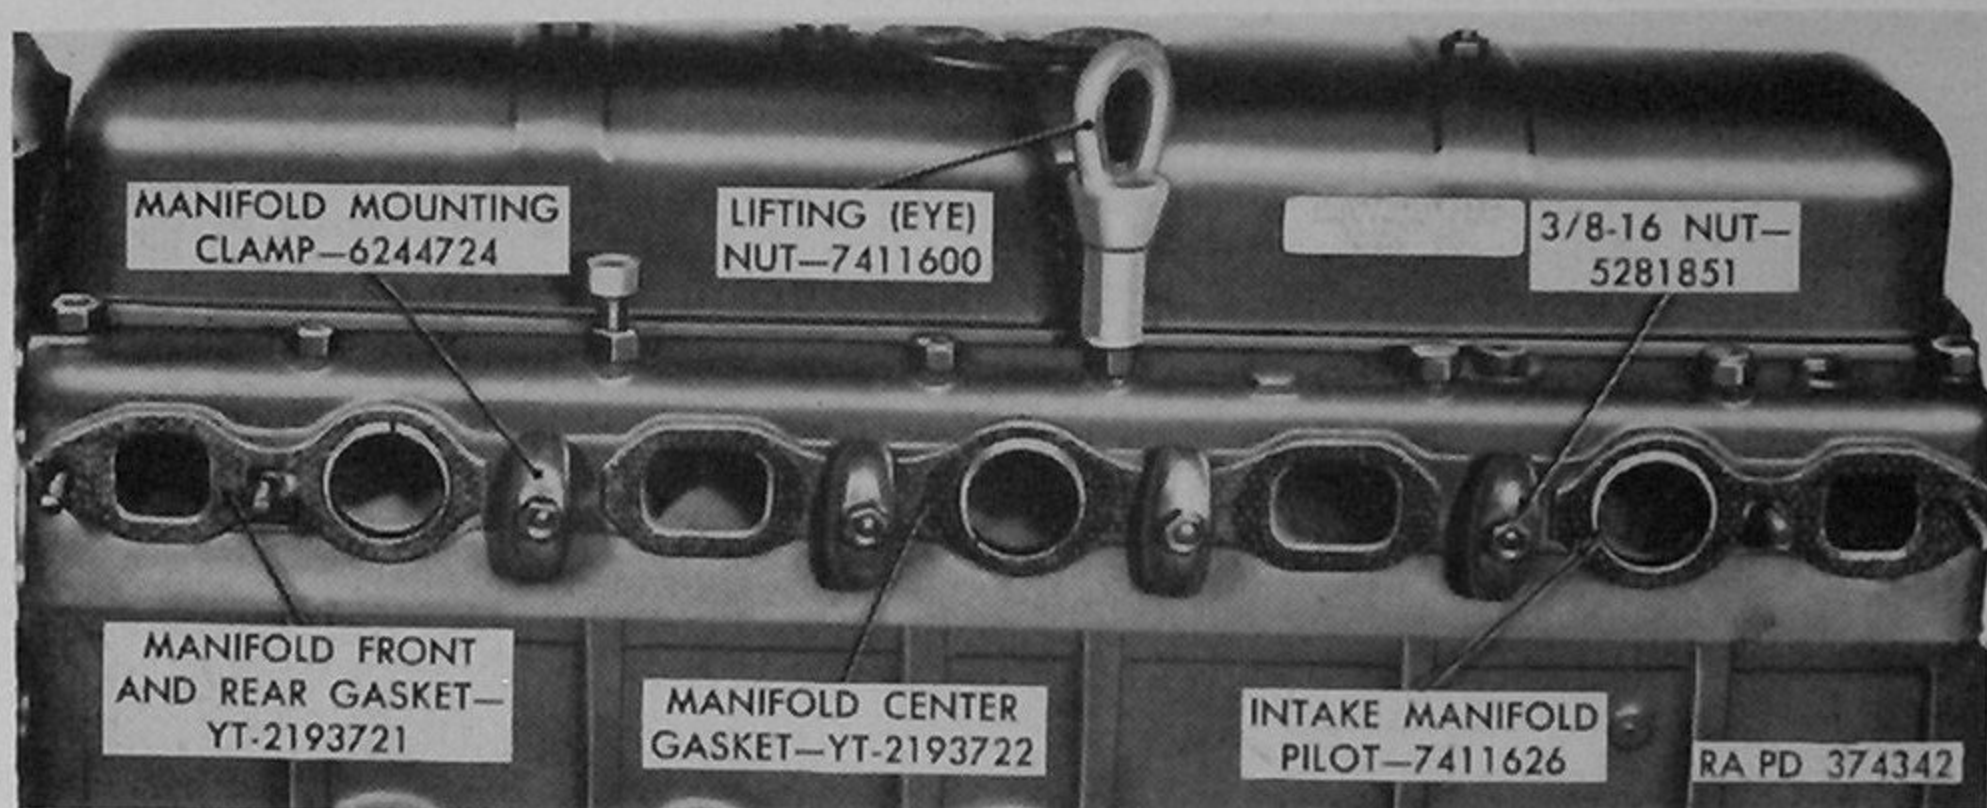

Figure 167. Location of manifold gaskets and clamps.
- (1) Position manifold front and rear and center gaskets (fig. 167) on studs at cylinder head assembly and install three intake manifold pilots in intake ports in cylinder head as shown in figure 167. Also place four mounting clamps on studs as shown, and start four  $\frac{3}{8}$ -16 nuts on studs. Turn mounting clamps to allow manifolds to be moved into place.